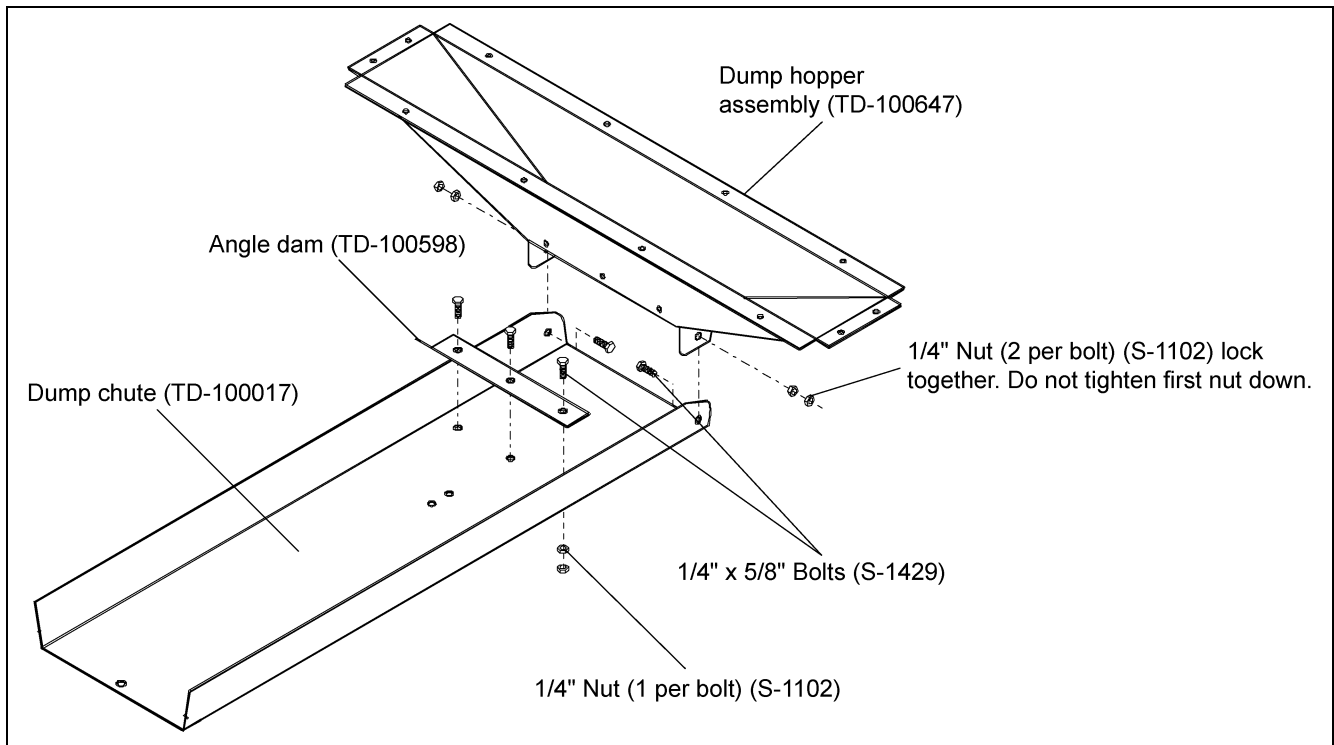

Figure 8N
Bolt an angle dam (TD-100598) to each dump chute using three (3) 1/4" x 5/8" bolts and nuts, as shown in Figure 8N. Use 1/4" x 5/8" bolts and double nuts to fasten dump chutes to hopper. **Do not tighten first nut down.** Lock second nut to first nut and **make sure chutes raise and lower FREELY.**